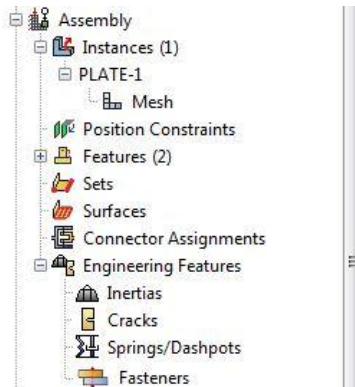

Figure 23. Model Tree Expansion (Crack)
- Now that the geometry has been meshed, a crack will be created on the part. In the model tree, expand the **Engineering Features** by clicking the + sign. If this has been done correctly, the model tree should look similar to that in Figure 23.